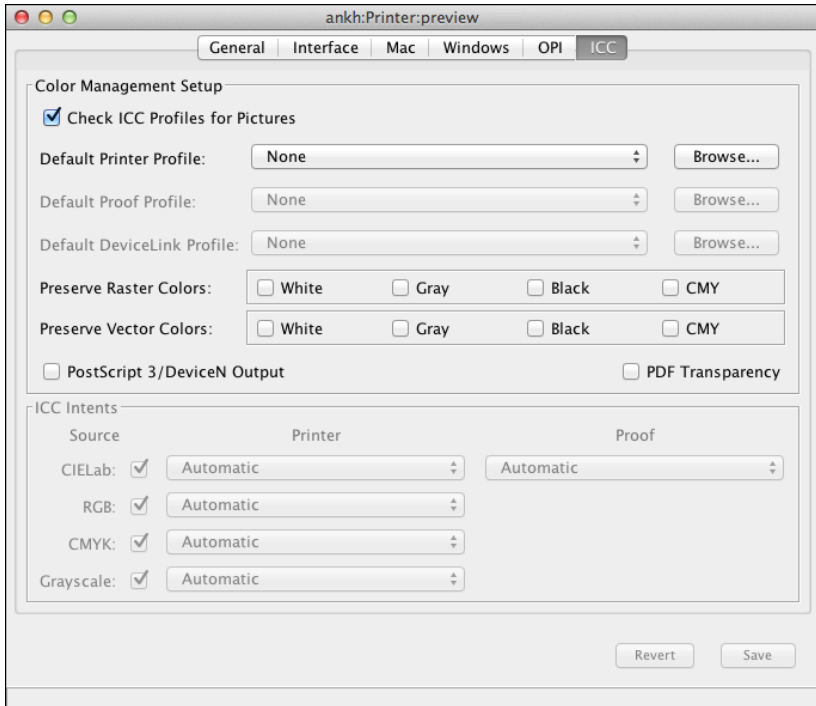

Fig. 5.3: Defining ICC settings for a specific printer queue
- To set up printer queue specific parameters, open the desired printer from the `Printers` list and then select the `ICC` tab to open the dialog shown in Fig. 5.3.
- Highlight a printer in the `Printers` list and then open the `ICC` settings dialog as shown in Fig. 5.3.